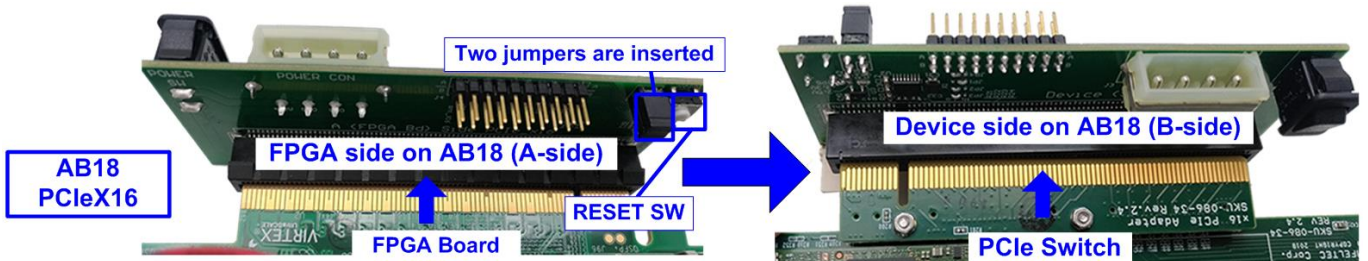

Figure 2-5 Connect AB18 to PCIe switch and FPGA board
- c. Connect PCIe switch to device side (B-Side) on AB18, as shown in Figure 2-5.